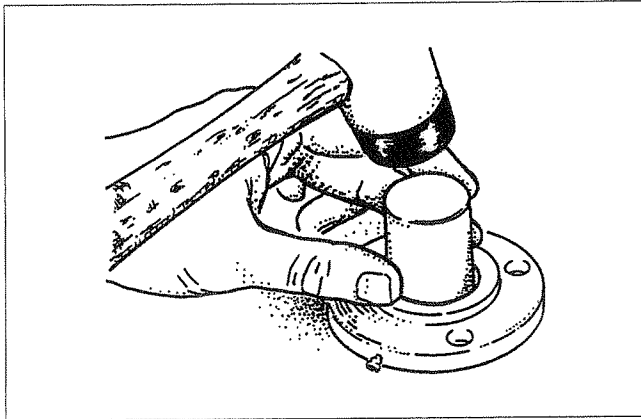

Figure 18
6. Using a suitable size socket and hammer to drive the seal out of the bearing cap cover. Discard the seal (Figure 18).